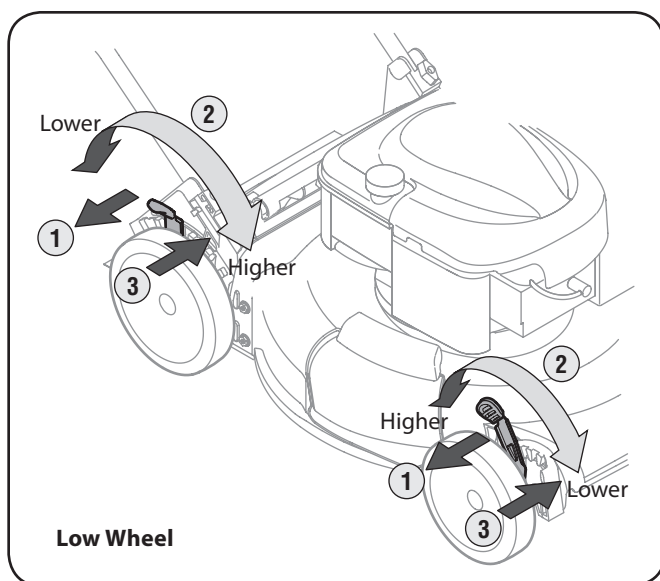

Figure 3-10
2. Move lever to desired position for a change in cutting height. See Fig. 3-10 and 3-10A.